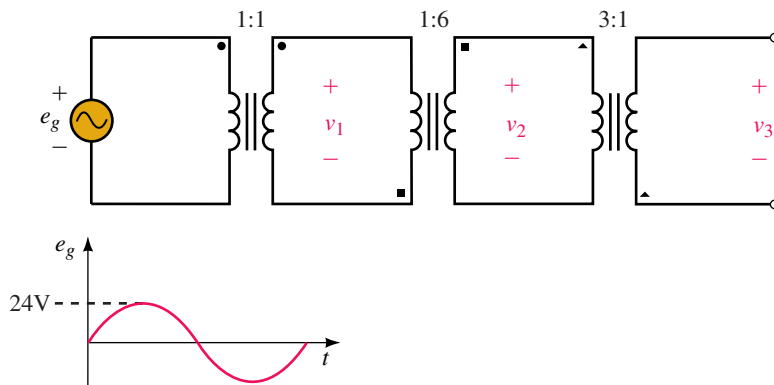

FIGURE 24–70
- For Figure 24–70, determine the phase relationship for v_1 , v_2 , and v_3 . Determine the expression for each.
- If, for Figure 24–71, $\mathbf{E}_g = 240 \text{ V} \angle 0^\circ$, $a = 2$, and $\mathbf{Z}_L = 8 \Omega - j6 \Omega$, determine the following: